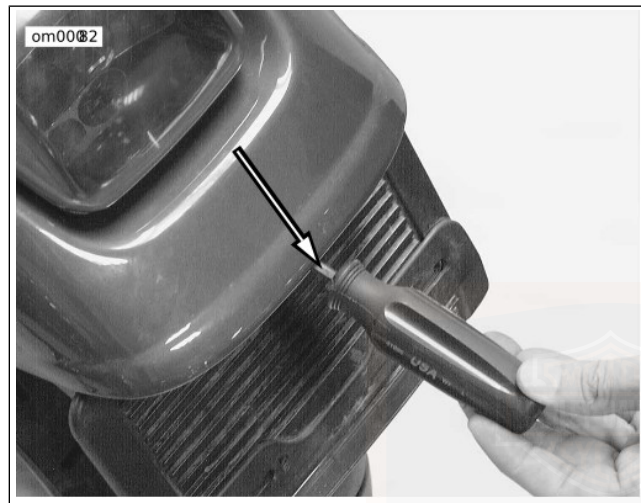

Figure 72. Tail Lamp Removal Access Hole: FXSTD Models
1. See Figure 72. Insert a small screwdriver into the middle hole of the license plate lamp cover. Push forward to release the clip on the tail lamp assembly.